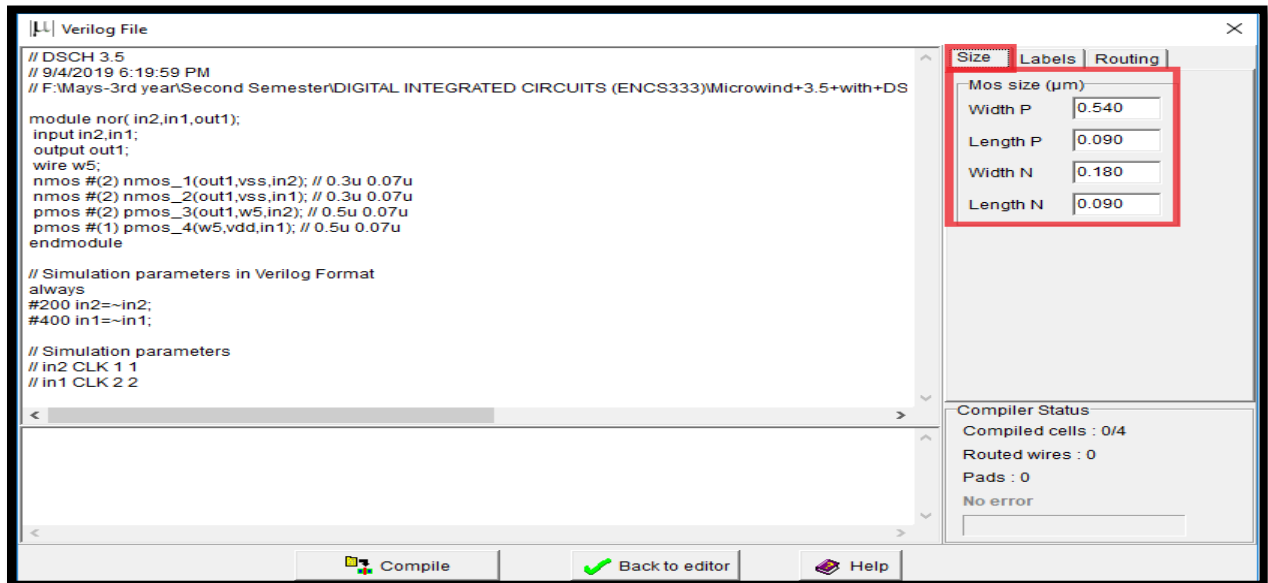

Figure 29: Verilog file window
- Add a capacitance to the output of the design. The value of the capacitance depends on your choice. See figure 29: